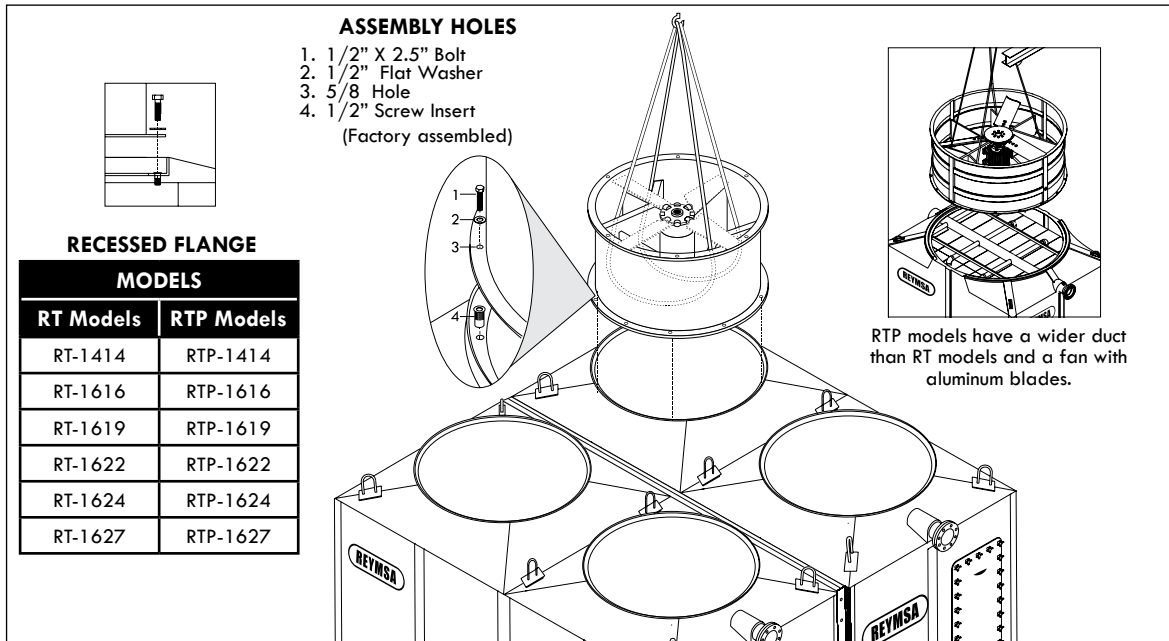

Figure A-32: Fan Duct installation for a Four Fan Tower
- Q. Then cradle/straddle the fan support with the straps (as shown in Figure A-32) so you can lift the fan duct with a crane and assemble it.
- R. Identify each fan duct, they are labeled with a number on the inside of the lower edge. For a correct installation, this number must match the number on the distribution manifold of the corresponding body section. Place fan duct 1 on the corresponding receiving flange on top of body section 1 of the Tower; make sure the bolt holes and the marks inside the fan duct and receiving flange are aligned (Figure A-32 and A-33). Secure it with the stainless steel nut and bolt sets supplied by REYMSA.